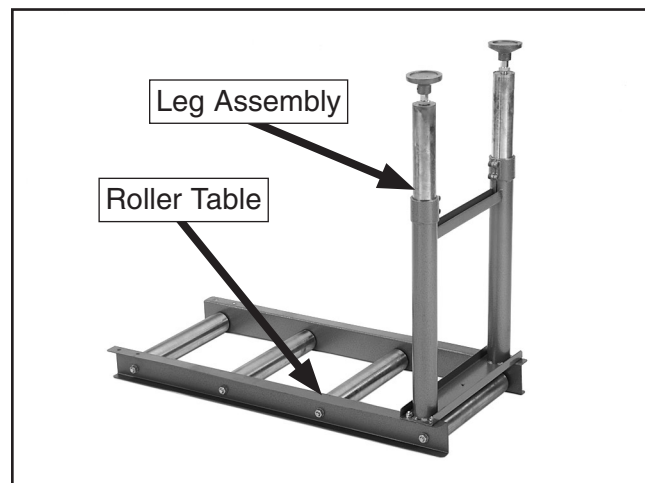

Figure 14. Placing legs on roller table.
3. Attach a leg assembly to the under-side of each end of both roller tables with four M8-1.25 x 16 hex bolts, four 8mm flat washers, and four M8-1.25 hex nuts (**Figures 14–15**).